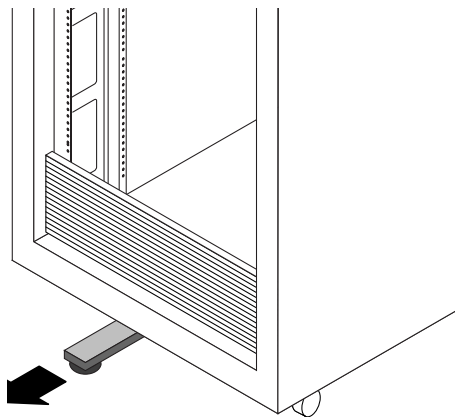

FIGURE C-5 Extending the Anti-tip Foot
8. If available, extend the anti-tip foot at the bottom of the rack. (See FIGURE C-5.)